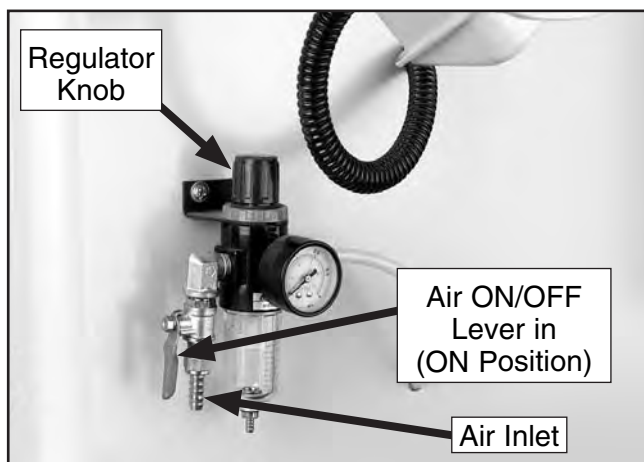

Figure 9. Air inlet located on regulator.
1. Connect the hose from your air compressor to the air inlet (**Figure 9**) on the regulator.
3. Lift the regulator knob (**Figures 9 & 10**) and turn it until the gauge reads 75 PSI.